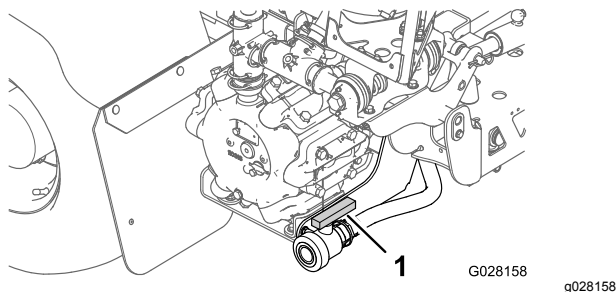

Figure 45
2. Locate the tank-drain valve on the rear of the machine (Figure 45).